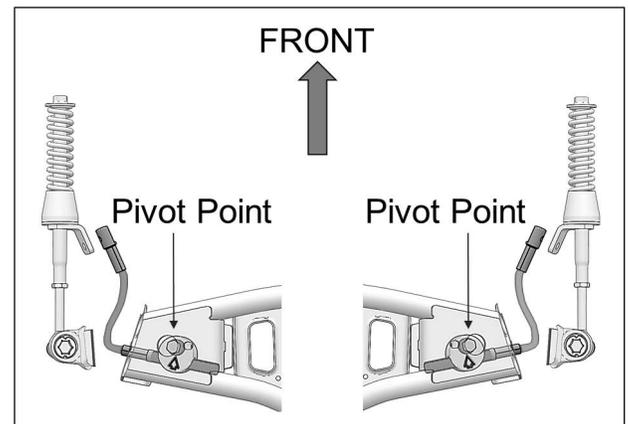

Fig. 28
15. Make sure aluminum disk pivot point is installed in front of steering limiter cable. See Fig. 28